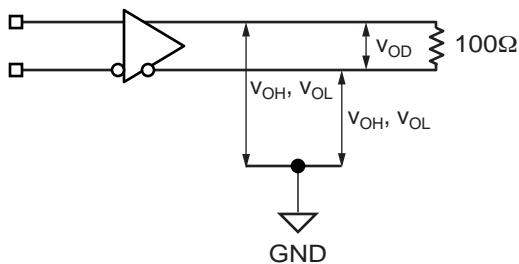

Figure 3. LVDS Differential Measurement
**Note 7.** Measured as per Figure 3, 100Ω across Q and /Q outputs.